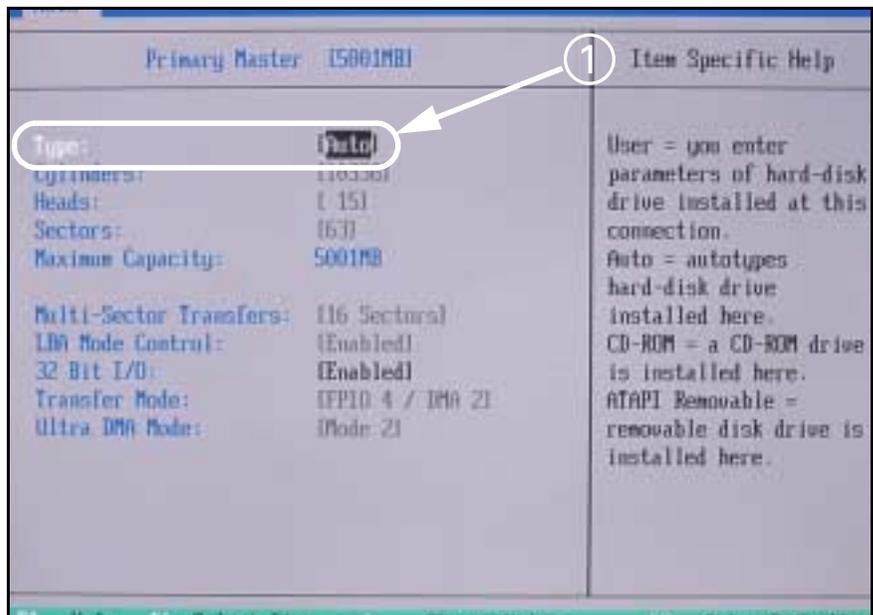

Figure 2-3 Hard drive settings
10. Use +/- keys to select type to Auto (① in Figure 2-3).